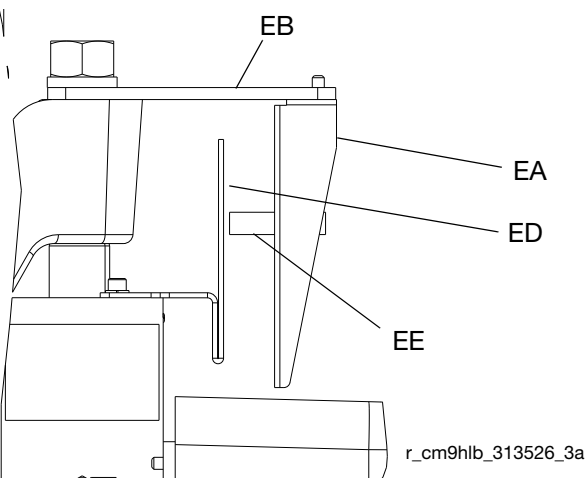

FIG. 10
- c. *For S20 supply systems:* Attach the actuator (ED) to the ram cylinder endcap, so the sensor (EE) passes in front of the bracket (ED) at the correct level for drum low or drum empty. See FIG. 10.